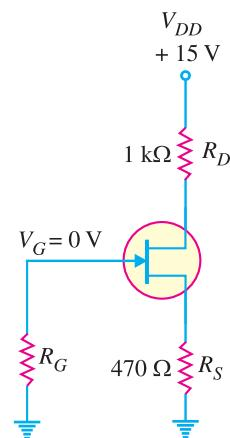

Fig. 19.21
**Example 19.13.** Find  $V_{DS}$  and  $V_{GS}$  in Fig. 19.21, given that  $I_D = 5 \text{ mA}$ .